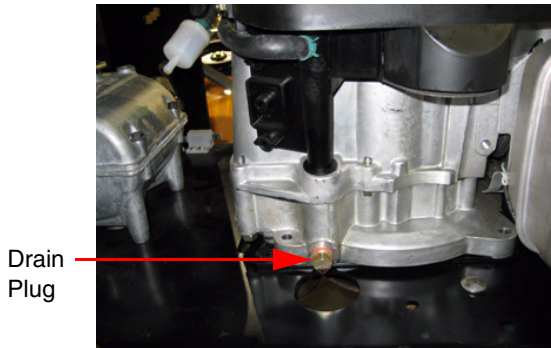

Figure 12
2. Remove oil drain plug, and replace when oil stops draining. (See Figure 12)